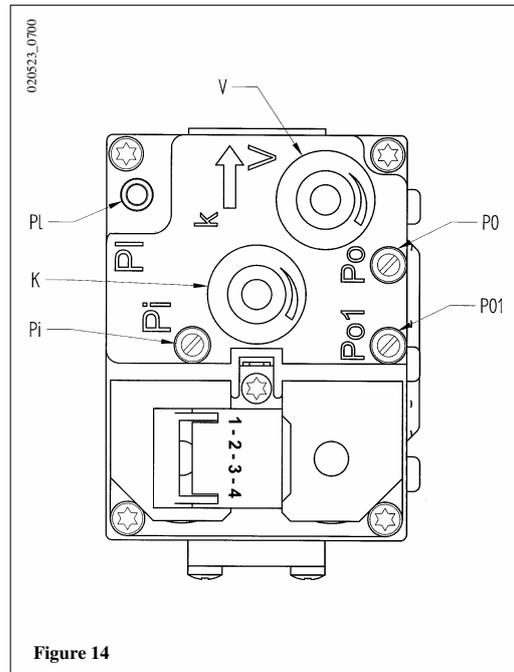

Figure 14
- a) gas valve SIEMENS model VDU 11 (figure 14);
- 1) **calibration of the maximum heat output.** Check that the CO₂ measured on the flue, with the boiler operating at the maximum heat output, is the same as that shown in table 1. Otherwise, turn the regulation screw (V) on the gas valve.
- a) **gas valve SIEMENS model VDU 11 (figure 14):** turn the screw clockwise to increase the concentration of CO₂ and anticlockwise to reduce it;